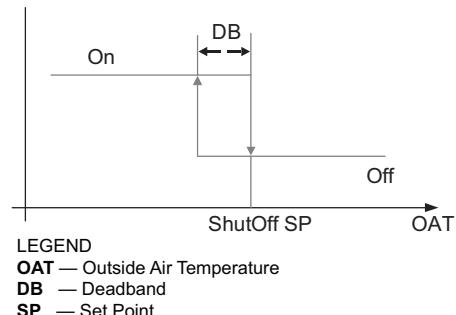

Fig. 81 — Hysteresis Settings
Hysteresis setting (DB) defaults to 2°F (-16.6°C). See Fig. 81.